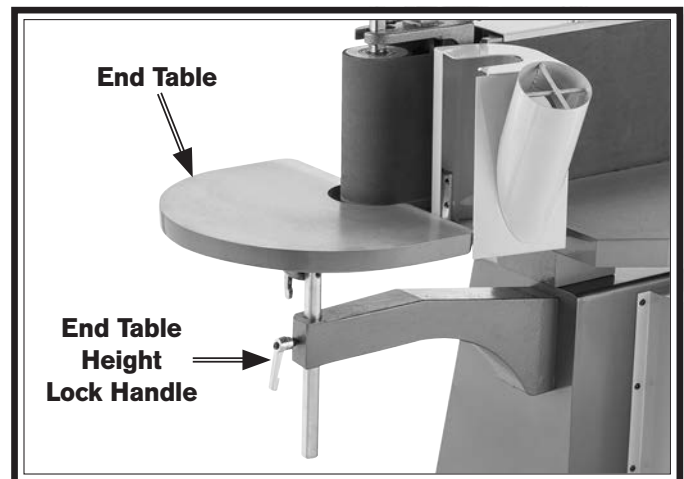

Figure 41. End table height components.
1. Loosen end table height lock handle (see **Figure 41**).
2. Move end table to desired height (see **Figure 41**).